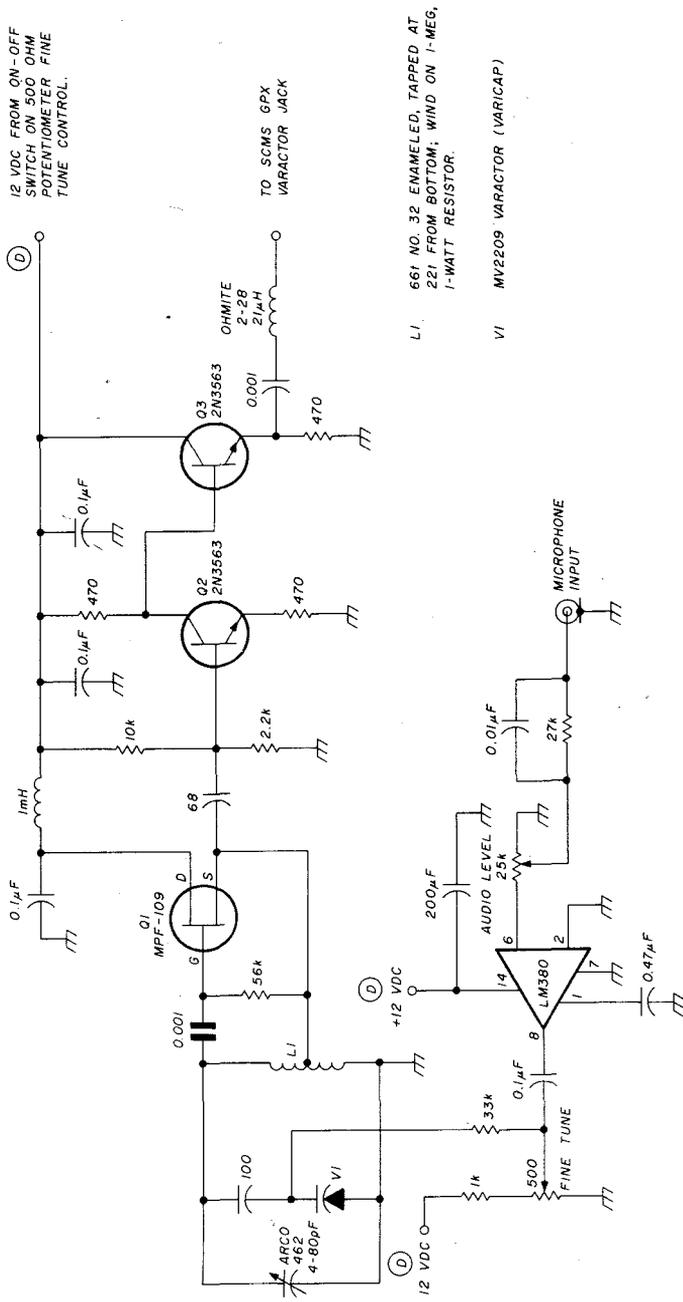

Figure 15-17.
At the receiving end, the detected audio signal is then de-emphasized (audio lows enhanced) to restore normal-sounding high-fidelity audio. Don't worry about putting your hi-fi voice subcarrier on the video signal now, and let the 27K ohm resistor and 0.01- μ F capacitor in the LM380 mike input line provide the pre-emphasis audio shaping. This network will make you sound natural when using a good-quality, high-impedance microphone. *Figure 15-17* is a schematic of the 4.5-MHz fm audio subcarrier system that will complement your video signal.
Q1 in *Figure 15-17* is a unique 4.5-MHz oscillator in that the ARCO 402 coarse tuning trimmer capacitor sets the fm subcarrier
1. Referring to *Figure 15-17*, the schematic of the 4.5-MHz fm audio subcarrier system, make sure that the ARCO 462 trimmer capacitor is adjusted for exactly 4.5-MHz oscillator output with the 500-ohm fine tune pot at midrange. Use a communications receiver or digital frequency counter for calibration.